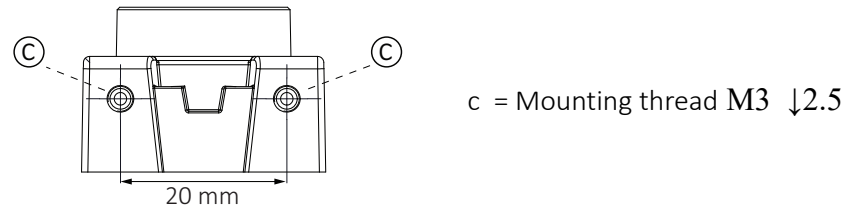

Figure 50: Top and bottom with mounting threads
1. Mount the camera to the base using suitable M3 screws at 0.35 Nm maximum torque for a thread engagement of 2.5 mm between screws and mounting threads, see Figure 50. For technical drawings, see Dimensions and mass on page 109.